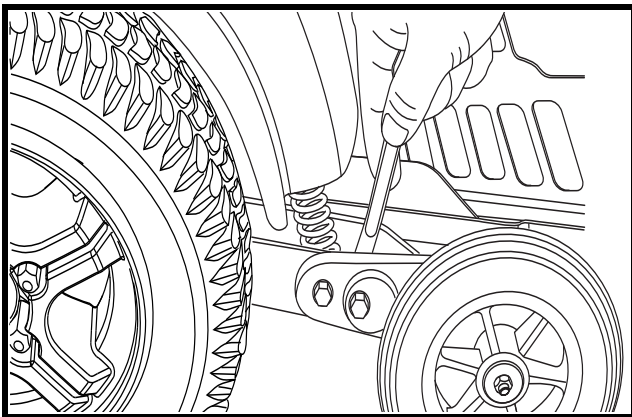

Figure 20. Anti-Tip Adjustment (Inner Locknut)
1. Place a wrench on the inner locknut of the anti-tip bracket located right after the shock strut. See figure 20.